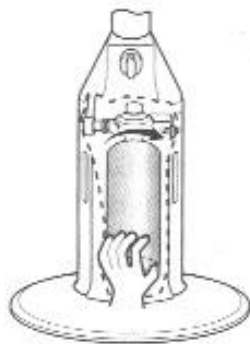
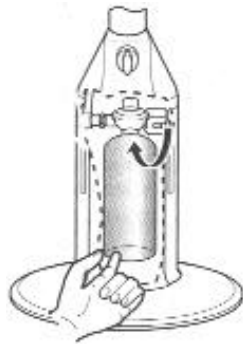
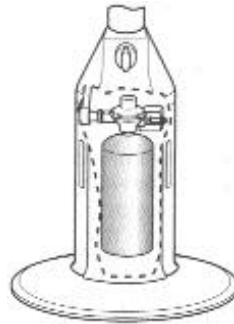

Fig. 3
Fig. 4
Fig. 5
- Attach cylinder to regulator inlet fitting by turning cylinder clockwise as shown in Fig. 3. Push and rotate gas cylinder downwards as shown in Fig. 4, till it is vertically centered in the base assembly as shown in Fig. 5.